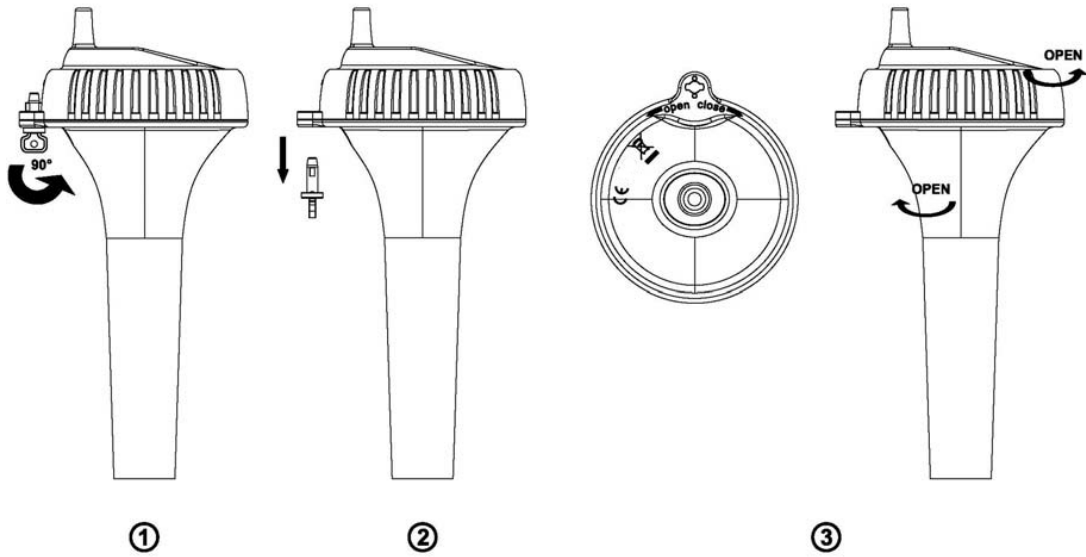

Figure 1
1. Twist the KEY lid to unlock, and twist the main of the sensor by removing the top cover, as shown in Figure 1 .